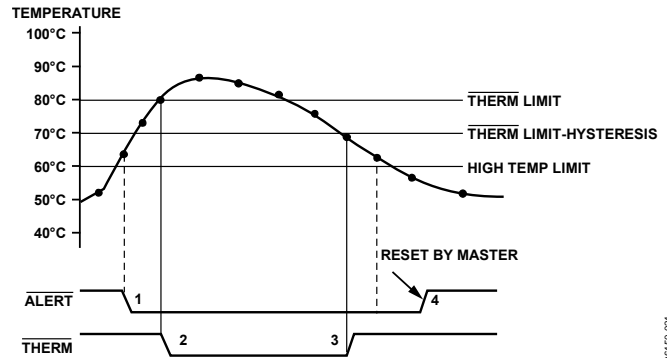

Figure 21. Operation of the $\overline{\text{ALERT}}$ and $\overline{\text{THERM}}$ Interrupts
Figure 21 shows how the $\overline{\text{THERM}}$ and $\overline{\text{ALERT}}$ outputs operate. If desired, use the $\overline{\text{ALERT}}$ output as a SMBALERT to signal to the host via the SMBus that the temperature has risen. Use the $\overline{\text{THERM}}$ output to turn on a fan to cool the system, if the temperature continues to increase. This method ensures that there is a fail-safe mechanism to cool the system, without the need for host intervention.
3. The $\overline{\text{THERM}}$ output de-asserts (goes high) when the temperature falls to $\overline{\text{THERM}}$ limit minus hysteresis. In Figure 21, the default hysteresis value of 10°C is shown.